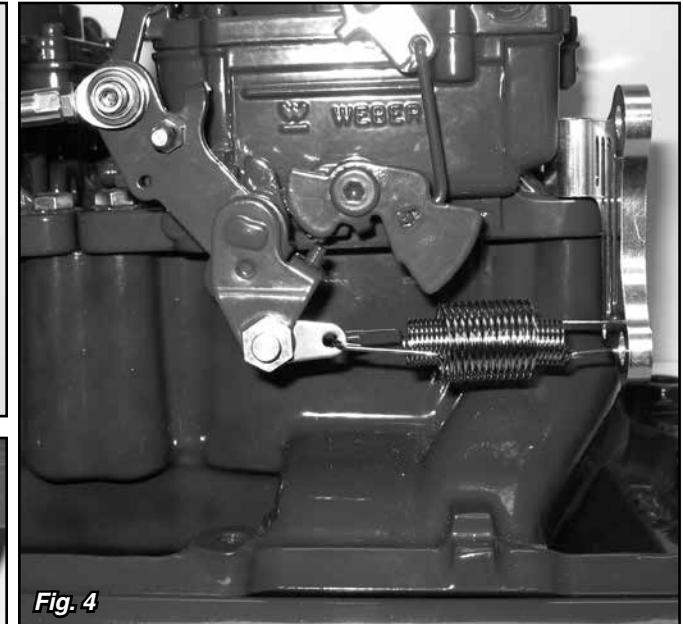

Fig. 4
Step 3: Connect the inner and outer springs to the small hole in the aluminum linkage bracket and to the tear drop. **Fig. 4**